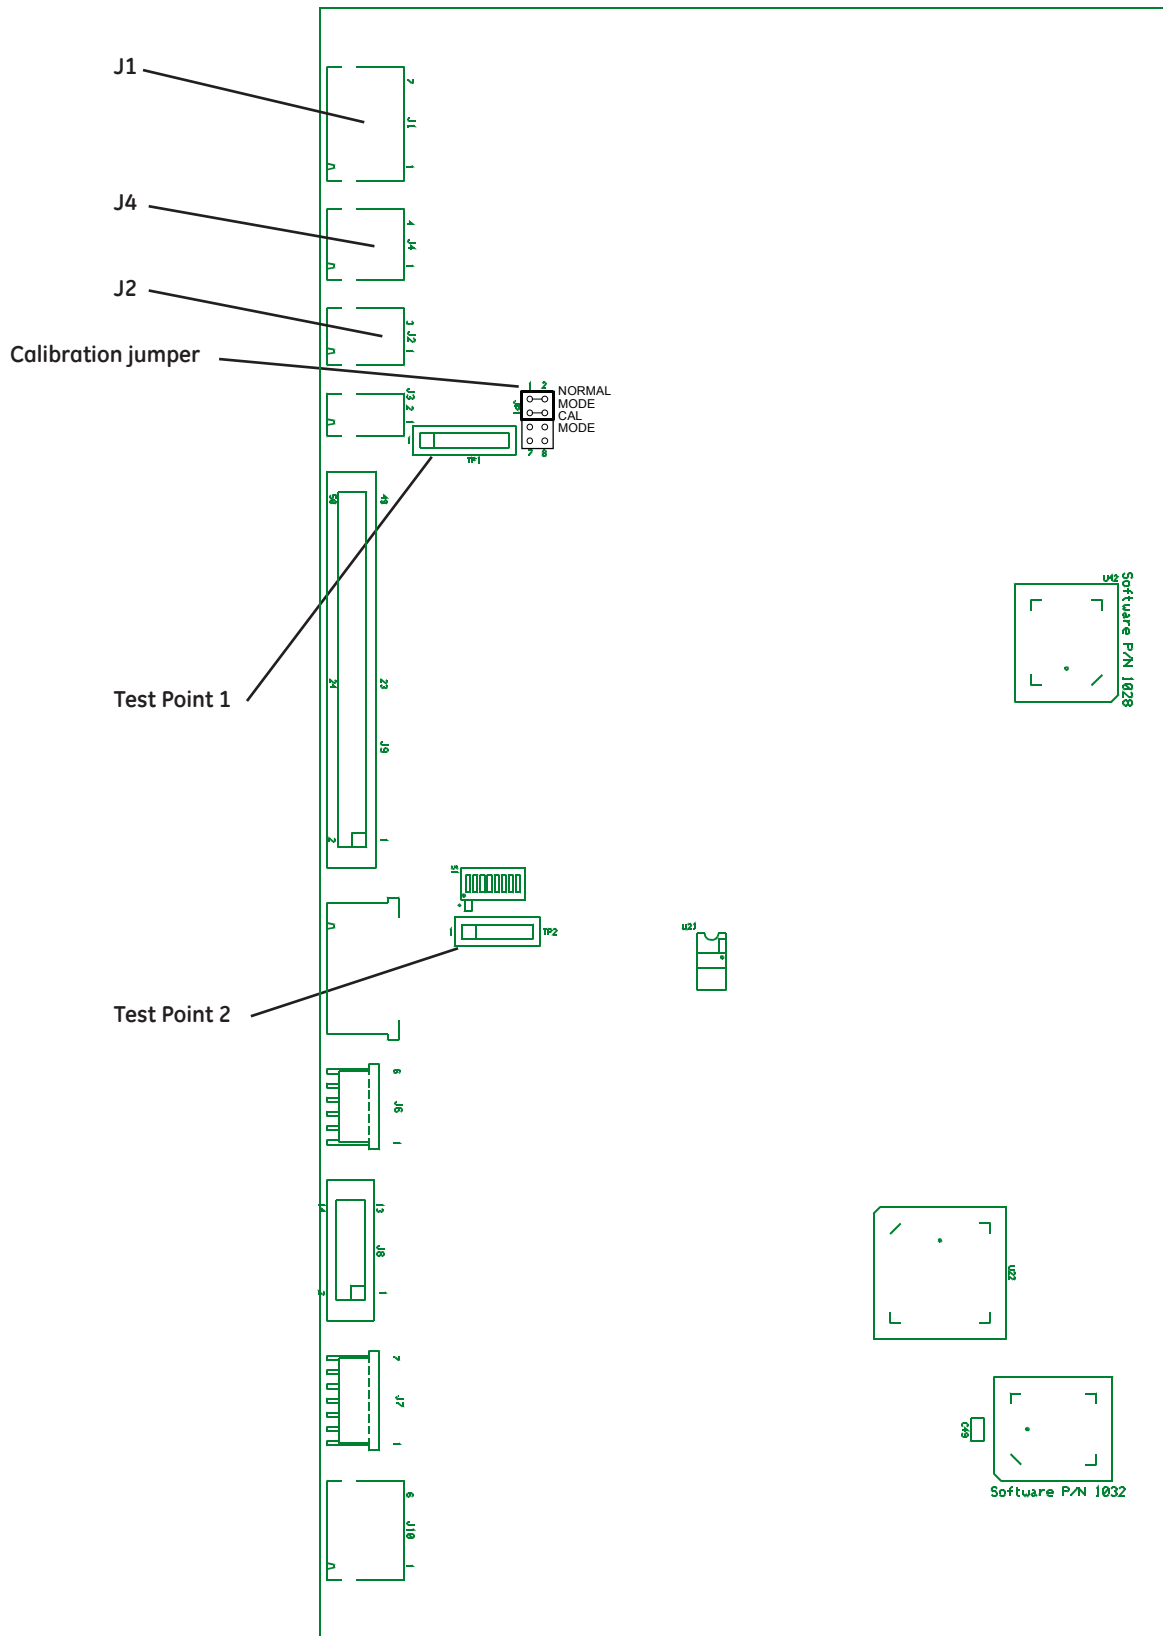

Figure 3-1 Control Board Test Points
4. Move jumper JP1 to the CAL MODE position on the control board. (Refer to “Figure 3-1 Control Board Test Points” on page 20.) Be sure to orient the jumper correctly so pins 5-6 and 7-8 are shorted.